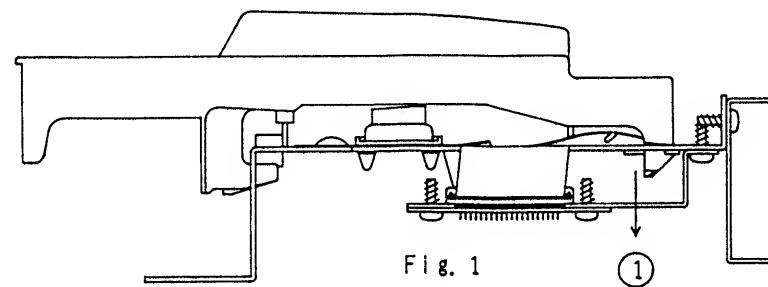

Fig. 1
1. Remove the stopper in the direction of arrow ① as shown in Fig.1.